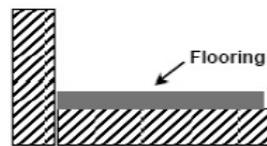

Fig.1
1. Spread sheet flooring products over subfloor. (See Fig.1)